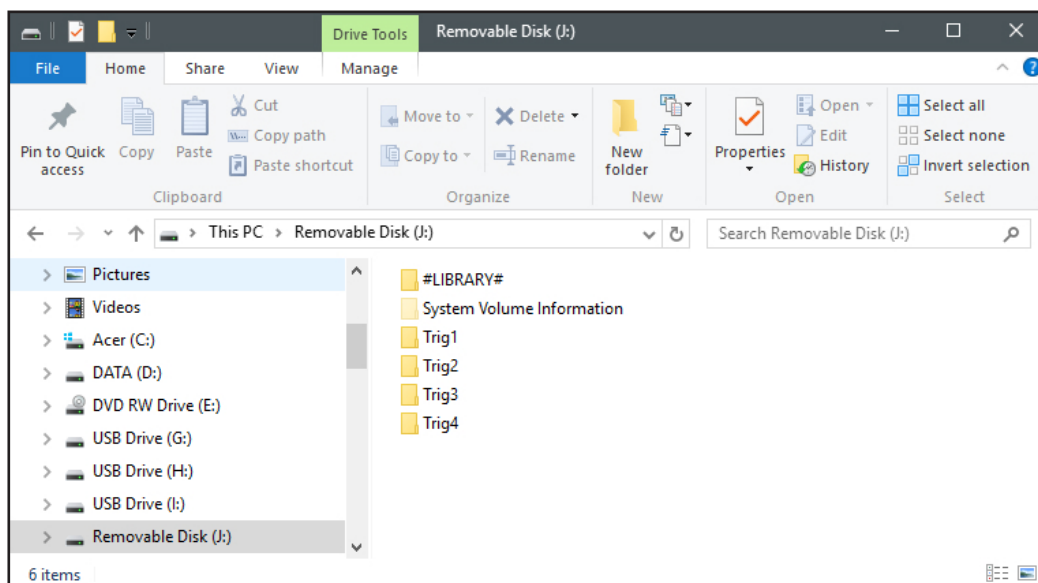

Fig 4
Step 3: Open the Removable Disk and you should get a window that looks like figure 4.